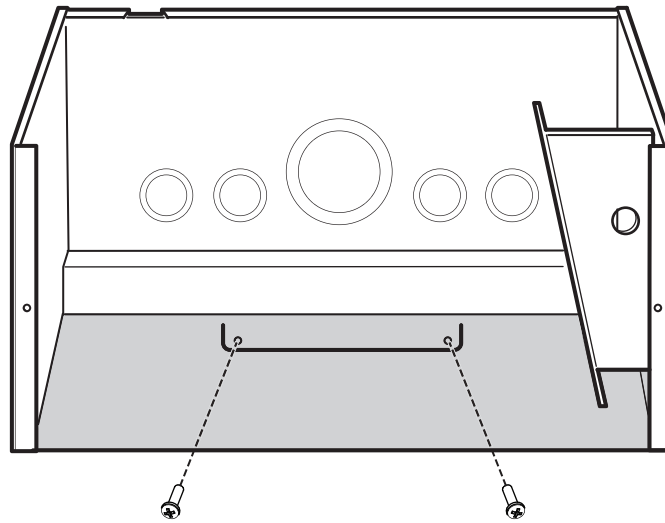

Figure 2-8 Wall-mounting the Conduit Box
- Using two screws (not included), secure the bracket at the bottom edge of the rear panel to the wall. See Figure 2-8.